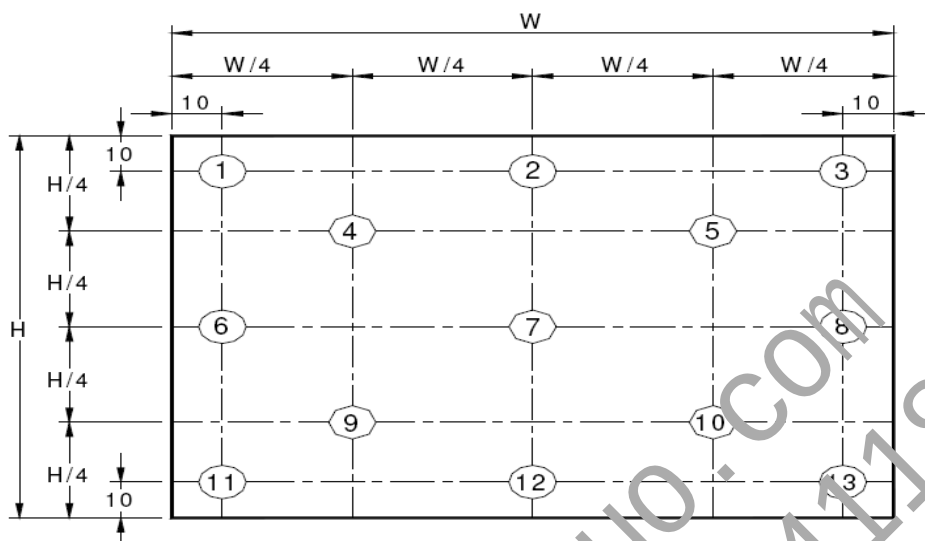

Figure 9. Uniformity Measurement Locations (13 points)
4. The White luminance uniformity on LCD surface is then expressed as : $\Delta Y = \text{Minimum Luminance of 5(or 13) points} / \text{Maximum Luminance of 5(or 13) points}$. (see Figure 8 and Figure 9).
The White luminance uniformity on LCD surface is then expressed as: ΔY_5 = Minimum Luminance of five points / Maximum Luminance of five points (see Figure 8), ΔY_{13} = Minimum Luminance of 13 points / Maximum Luminance of 13 points. (see Figure 9).